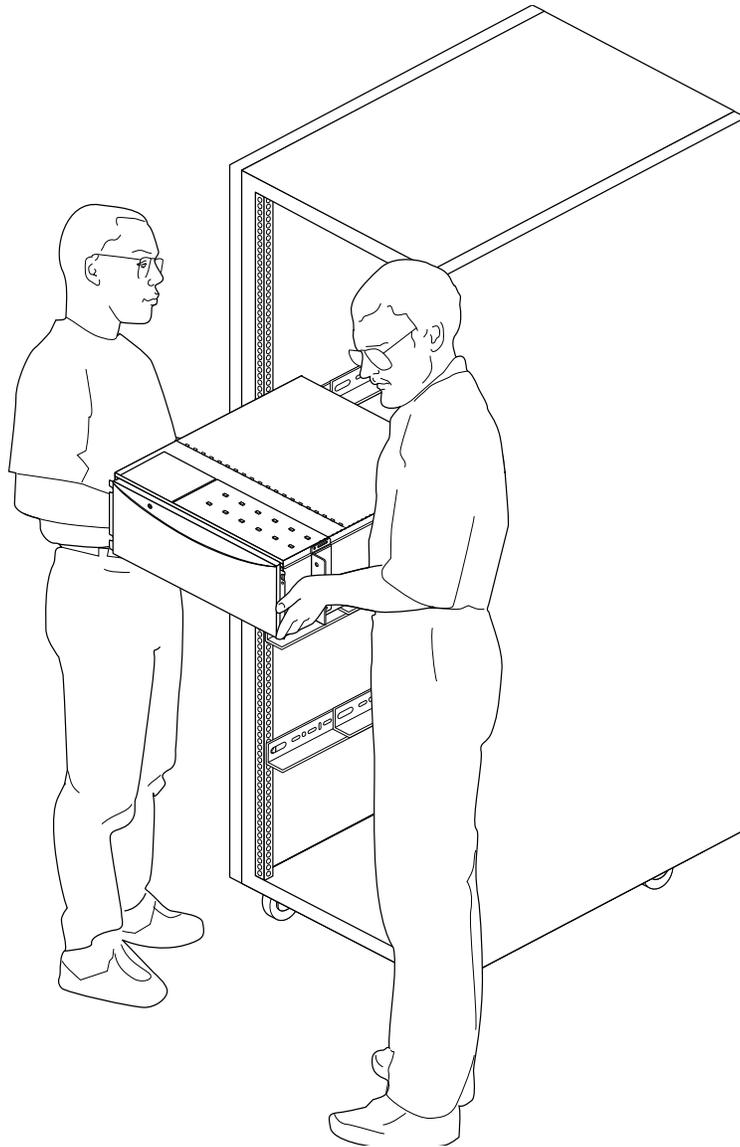

Figure 3-4 Lifting the Origin200 Server Into a Rack
3. With a person on each side of the chassis, lift the server and move it to the equipment rack, as shown in Figure 3-4.